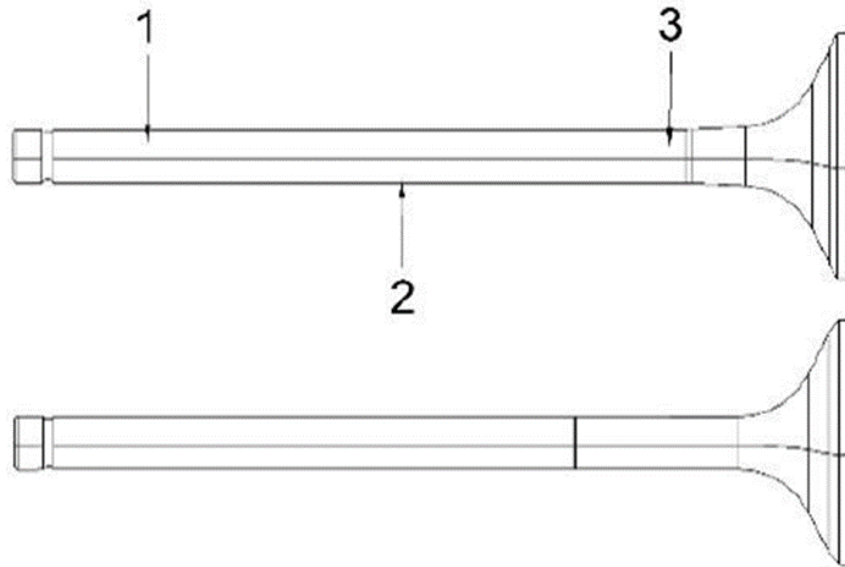

Figure 70. Valve Stem Diameter
3. Use a micrometer to measure the valve stem diameter. Measure the valve stem near the combustion end and near the opposite end (Figure 70). See Intake / Exhaust Valve and Guide chart for the service limit.